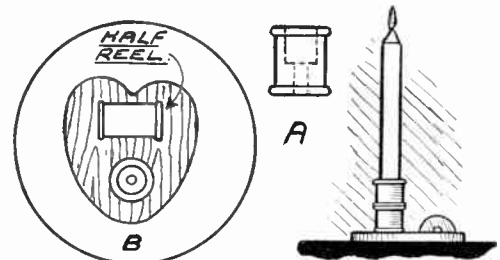

Fig. 3 An easily made candlestick
A very simple candlestick can be made by using two fairly strongly waisted reels for the upright and a half reel for the handle. Fig. 3 shows the idea. The top reel is bored out as indicated (A) to take the end of a standard candle and upright and handle are secured with